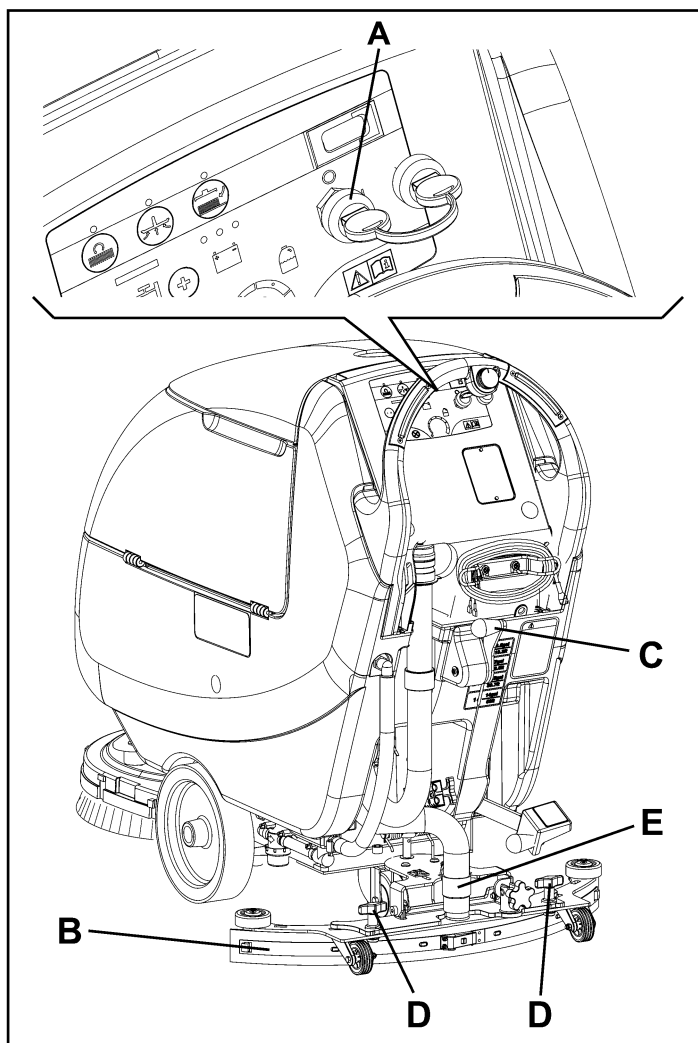
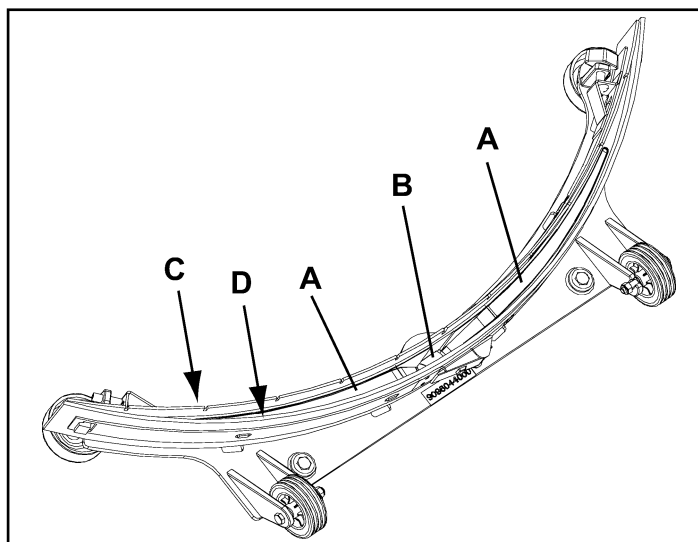

Figure 25
Figure 26
2. Turn the ignition key (A, Fig. 25) to "0".
3. Lower the squeegee (B) with the lever (C).
4. Loosen the knobs (D) and remove the squeegee (B).
5. Disconnect the vacuum hose (E) from the squeegee.
6. Clean the steel or the aluminum squeegee (Fig. 26). Clean the compartments (A) and the hole (B) especially. Check the front blade (C) and the rear blade (D) for integrity, cuts and tears; if necessary replace them (see the procedure in the following paragraph).